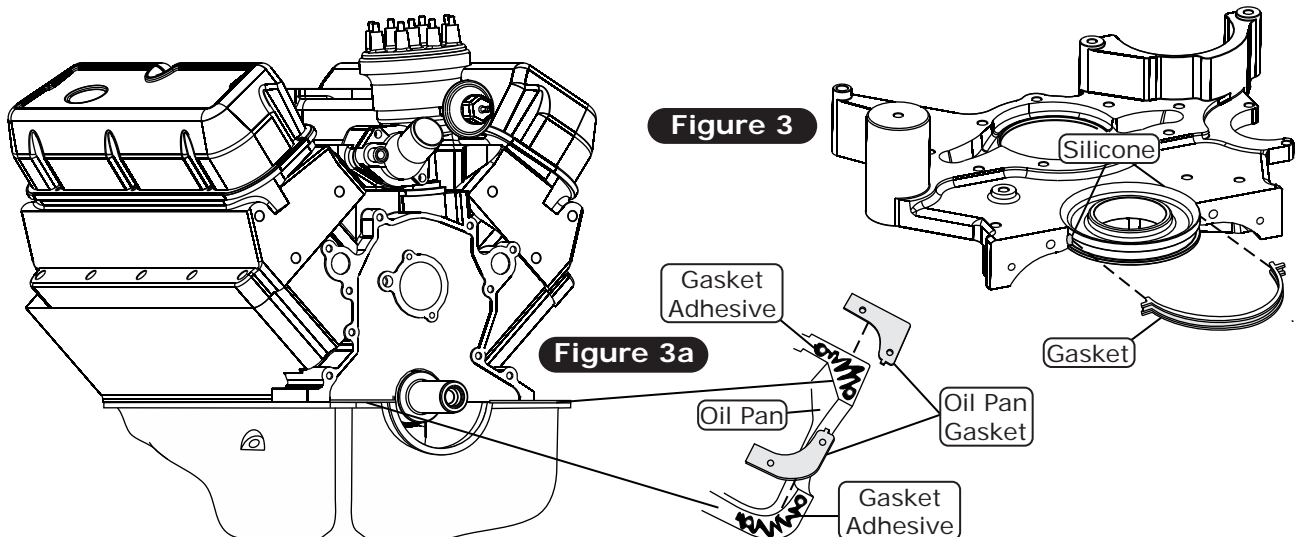

Figure 3
4. Using a suitable high-temperature RTV silicone, apply silicone to the timing cover/oil pan gasket locators on the bottom side of the Front Runner main bracket (See Figure 3, below).